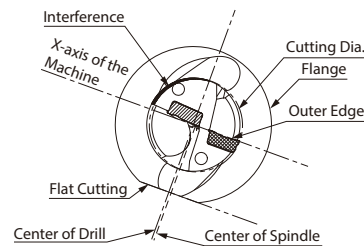

Fig.8 Excessive Offset (For Smaller Hole Diameter)
2. For making the hole diameter larger, slide the tool along the X-axis toward the outer insert side. (Fig. 6, Fig. 7) For making the hole diameter smaller, slide the tool along the X-axis in the opposite direction. (This movement of the axis is called "Offset") Be sure not to make the hole diameter smaller than the drill diameter by 0.2 mm or more. Otherwise, the toolholder will interfere with the drilled hole. (Fig. 8)